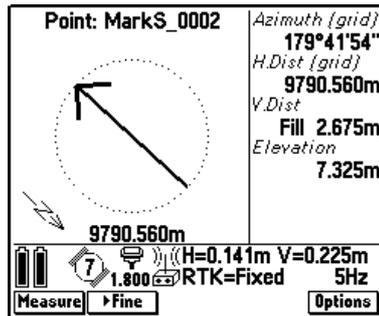

Figure 3.9 Stakeout/Point graphical display screen – arrow
5. In the *Survey/Stakeout/Point* screen, enter a value in the *Antenna height* field and press the  softkey or . The azimuth and horizontal distance from the present position to the point to be staked out appear, together with a graphical representation of these values, as shown in Figure 3.9.